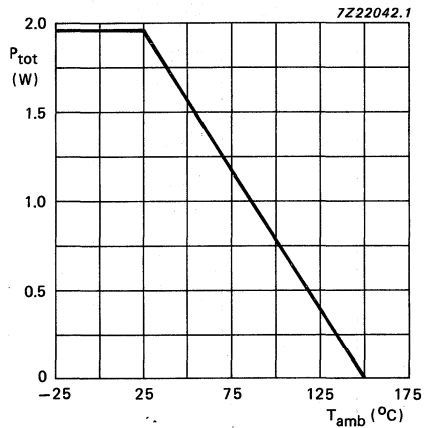

Fig.4 Power derating curve.
- All parameters are measured in the application circuit (see Fig.4) at nominal supply voltage $V_P = 3$ V; $T_{amb} = 25$ °C; unless otherwise specified. RF conditions: Input frequency 1 MHz; 30% modulated with $f_{mod} = 1$ kHz; unless otherwise specified.
- All parameters are measured in the application circuit (see Fig.4) at nominal supply voltage $V_P = 3$ V; $T_{amb} = 25$ °C; unless otherwise specified. RF conditions: Input frequency 100 MHz; frequency deviation $\Delta f = 22.5$ kHz and $f_{mod} = 1$ kHz; unless otherwise specified.